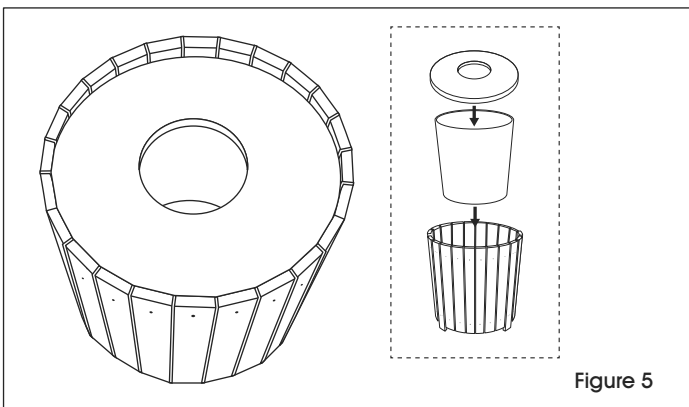

Figure 5
8. Place the rigid liner inside the can and place the plastic lid on top. (See Figure 5)